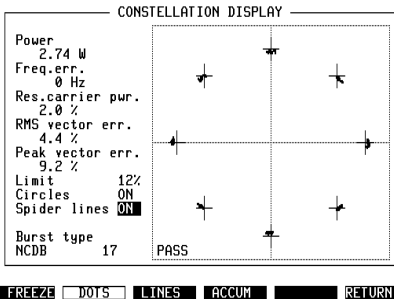

Fig. 10.10:
- Press **(CONST)** key. The constellation display is then shown (**Fig. 10.10**).
- In the Spider lines entry field you can toggle the display of spider lines on and off. The spider lines are small crosses, which mark the positions of the respective nominal points (**Fig. 10.10**).